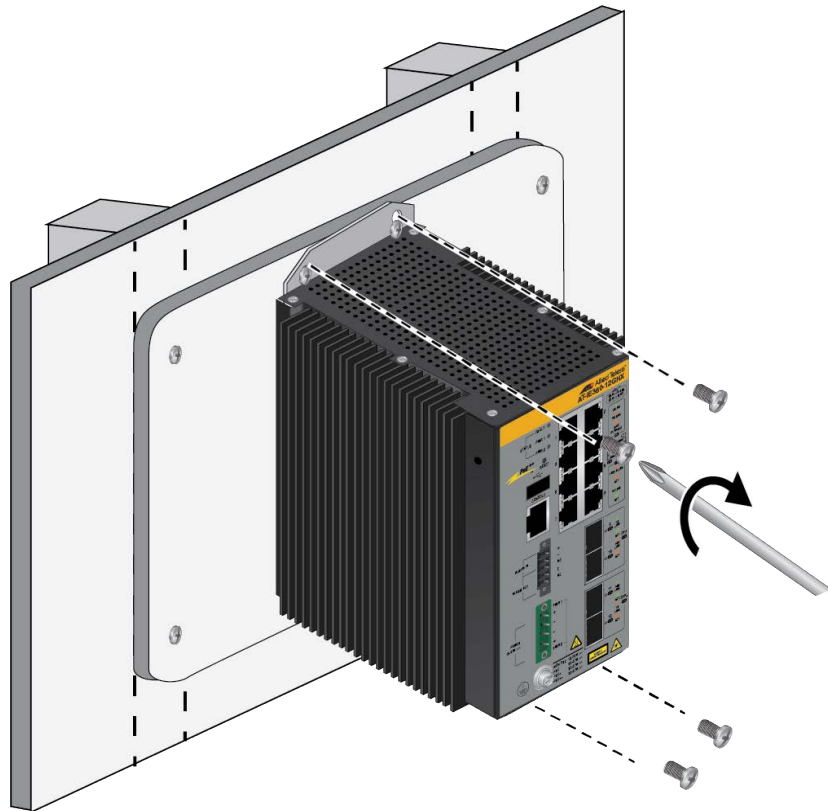

Figure 28. Attaching the Switch to the Plywood Base
6. Have another person hold the switch on the plywood base on the wall while you secure it with four screws (not provided). Refer to Figure 28 on page 83.
- ❑ The switch must be oriented as shown in Figure 28. Do not install the switch horizontally or upside-down.